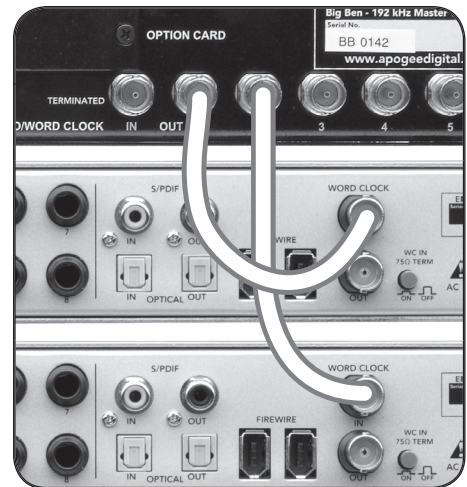

figure 22
1. Connect a word clock cable between individual master clock word clock outputs and each Ensemble's word clock input. (figure 22)